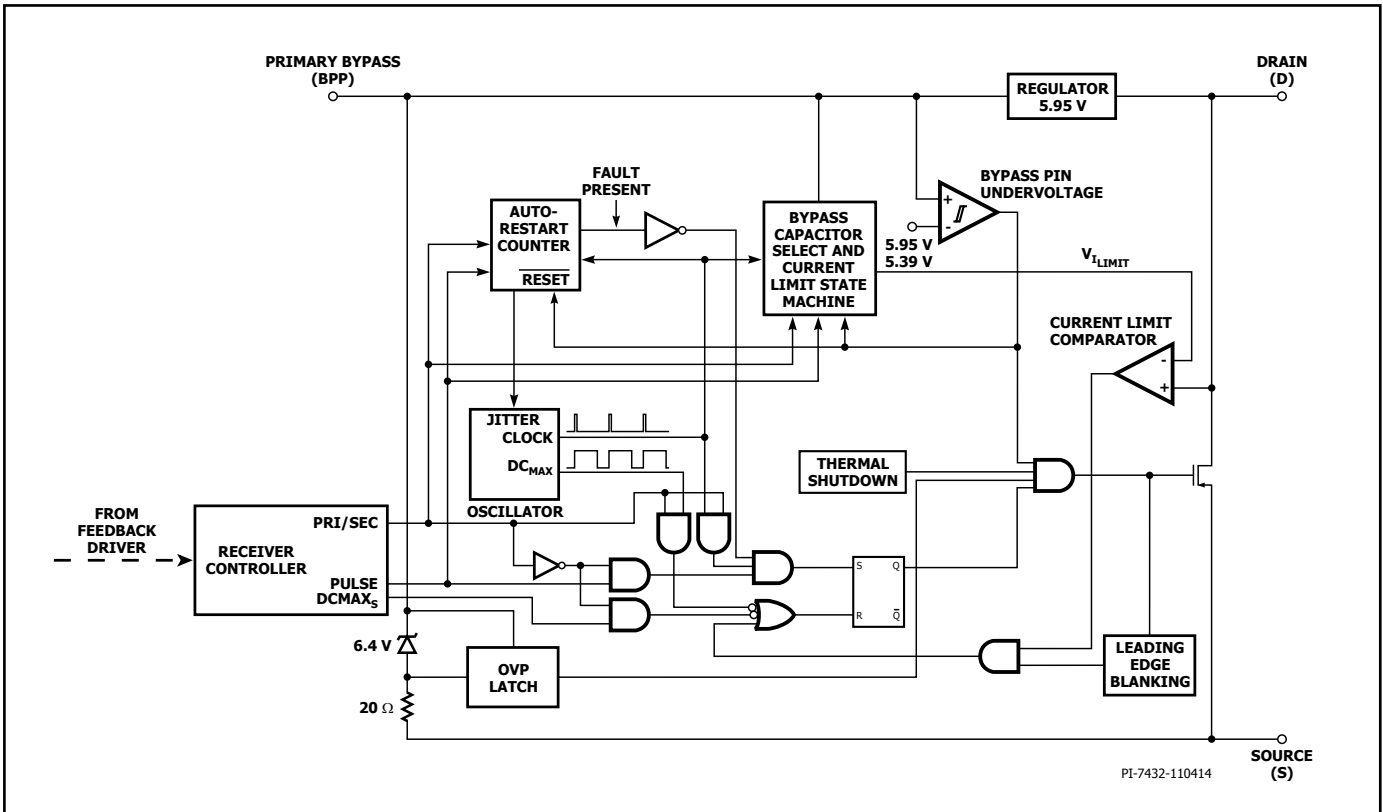

Figure 3. Primary-Side Controller Block Diagram.
The InnoSwitch-CH combines a high-voltage power MOSFET switch and both primary-side and secondary-side controllers in one device. The feedback scheme using a proprietary FluxLink coupling scheme using the package lead frame and bond wires to provide a reliable and low-cost means to provide accurate direct sensing of the output voltage and output current on the secondary to communicate information to the primary IC. Unlike conventional PWM (pulse width modulated) controllers, it uses a simple ON/OFF control to regulate the output voltage and current. The primary controller consists of an oscillator, a receiver circuit magnetically coupled to the secondary controller, current limit state machine, 5.95 V regulator on the PRIMARY BYPASS pin, overvoltage circuit, current limit selection circuitry, over temperature protection, leading edge blanking and a 650 V power MOSFET. The InnoSwitch-CH secondary controller consists of a transmitter circuit that is magnetically coupled to the primary receiver, constant voltage (CV) and constant current (CC) control circuitry, a 4.45 V regulator on the SECONDARY BYPASS pin, synchronous rectifier MOSFET driver, frequency jitter oscillator and a host of integrated protection features. Figures 3 and 4 show the functional block diagrams of the primary and secondary controllers with the most important features.